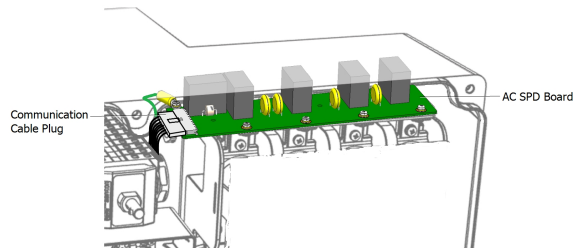

Figure 2: Disconnecting the Plug of the Communication Cable of AC SPD Board
2. Disconnect the plug of the communication cable from the AC SPD Board (see *Figure 2*).
4. Connect the plug of the communication cable to the AC SPD Board (see *Figure 2*).